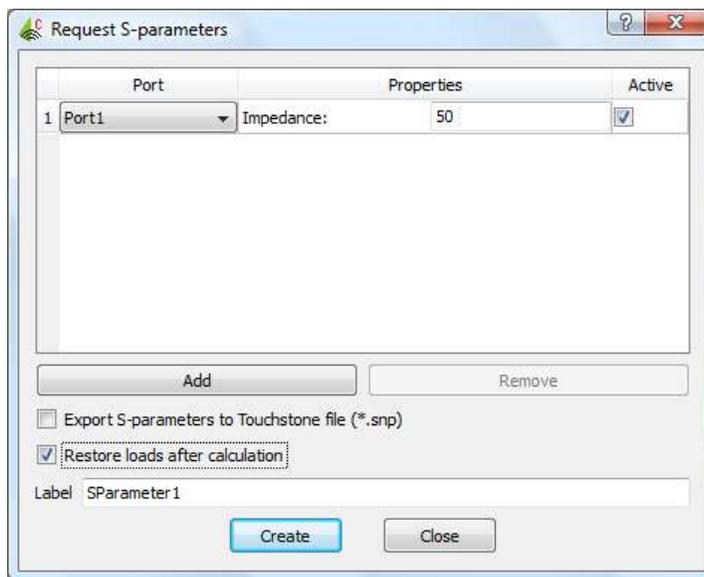

Figure 18.
21. Now, you can request the type of simulation/analysis you want to conduct. For this particular example, we are interested in the  $|S_{11}|$  measurement. Thus right click “Calculation” → “Request S-parameters”. You will get Figure 18. Click “Restore loads after calculation” then click “Create” and then “Close”.